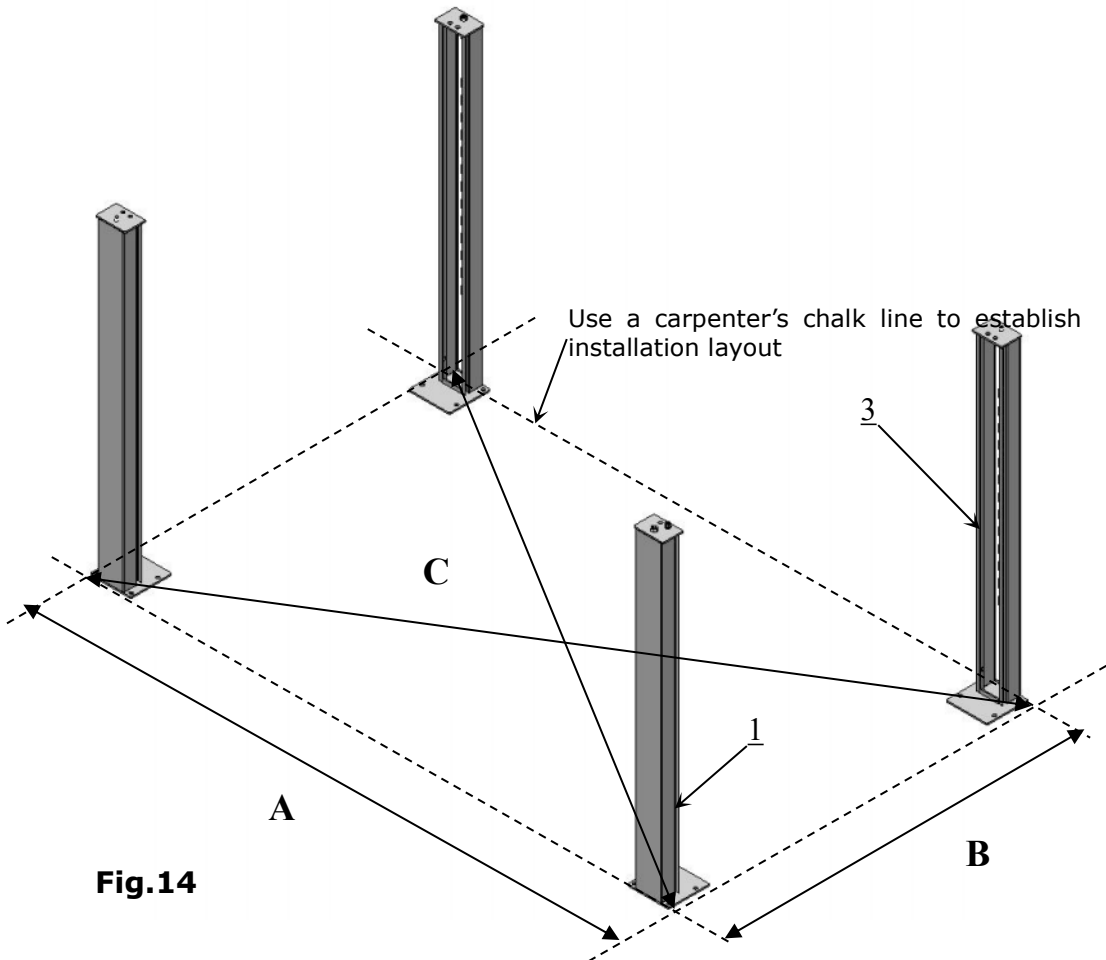

Fig.14
C. Use a carpenter’s chalk line to establish installation layout (see Fig 14) .